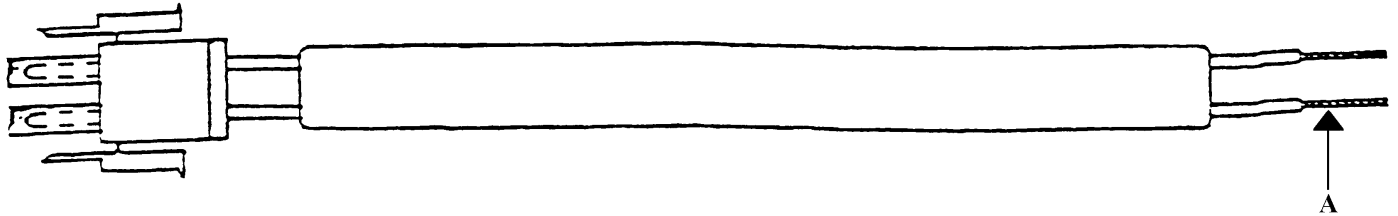

Figure 5
1. Secure the spliced wire ends to the counter. (See A, figure 5.)